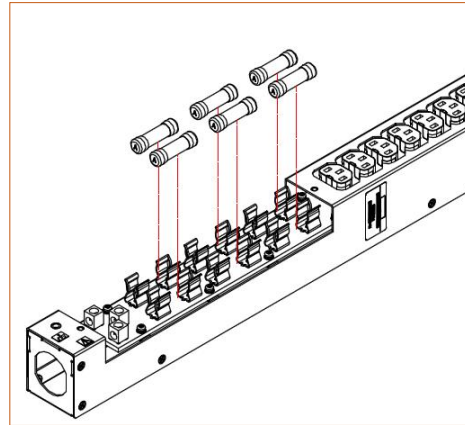

Figure 2. Fuse Removal
3. Using a fuse puller (such as Bussman FP-2), carefully extract each fuse by pulling it up. See Figure 2.